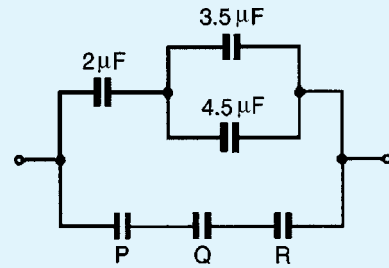

Figure 6.12
9. In Fig. 6.12 capacitors P , Q and R are identical and the total equivalent capacitance of the circuit is $3 \mu\text{F}$. Determine the values of P , Q and R